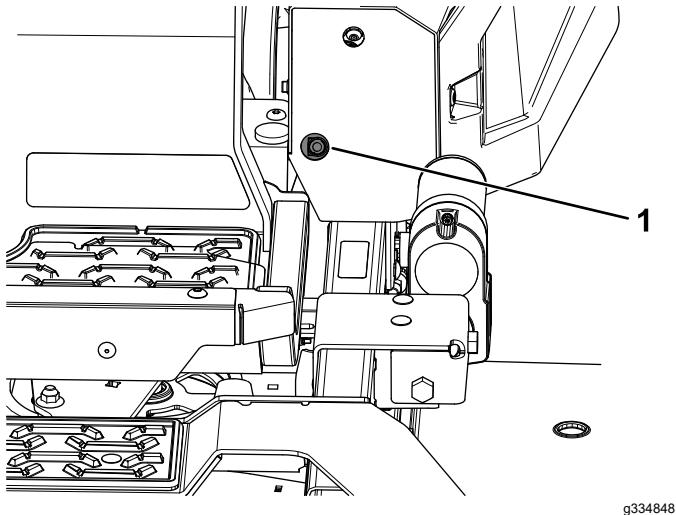
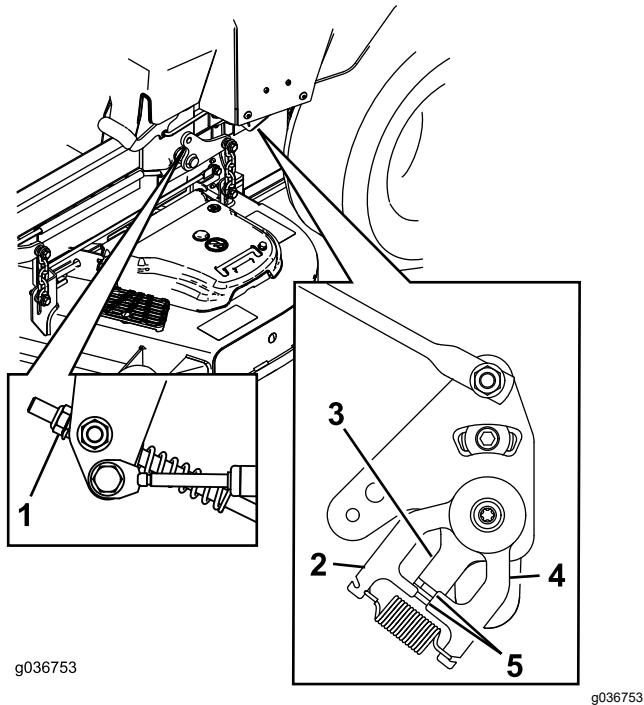

Figure 73
Figure 74
11. Adjust the pump-control-rod lengths by rotating the nut in the appropriate direction until the wheels slightly creep in reverse (Figure 73 and Figure 74).